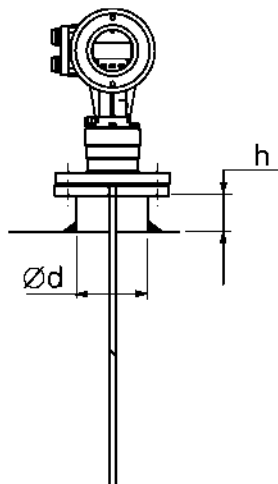

Figure 10
**⚠** The nozzle height should never be longer than its diameter (up to a max. height of 6”). In Figure 10,  $h \leq d$ , where  $h$  = nozzle height and  $d$  = nozzle diameter. Contact Monitor Technologies technical support personnel if this relationship cannot be achieved.